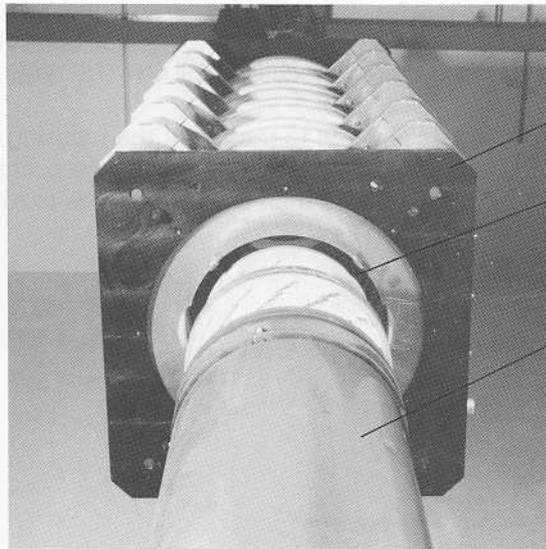

Fig. 37. View from the Ground showing Focusing Coil Unit (TE 1266) above Klystron
- (d) Hoist the focusing coil unit (TE 1266) immediately above the klystron (Fig. 37).